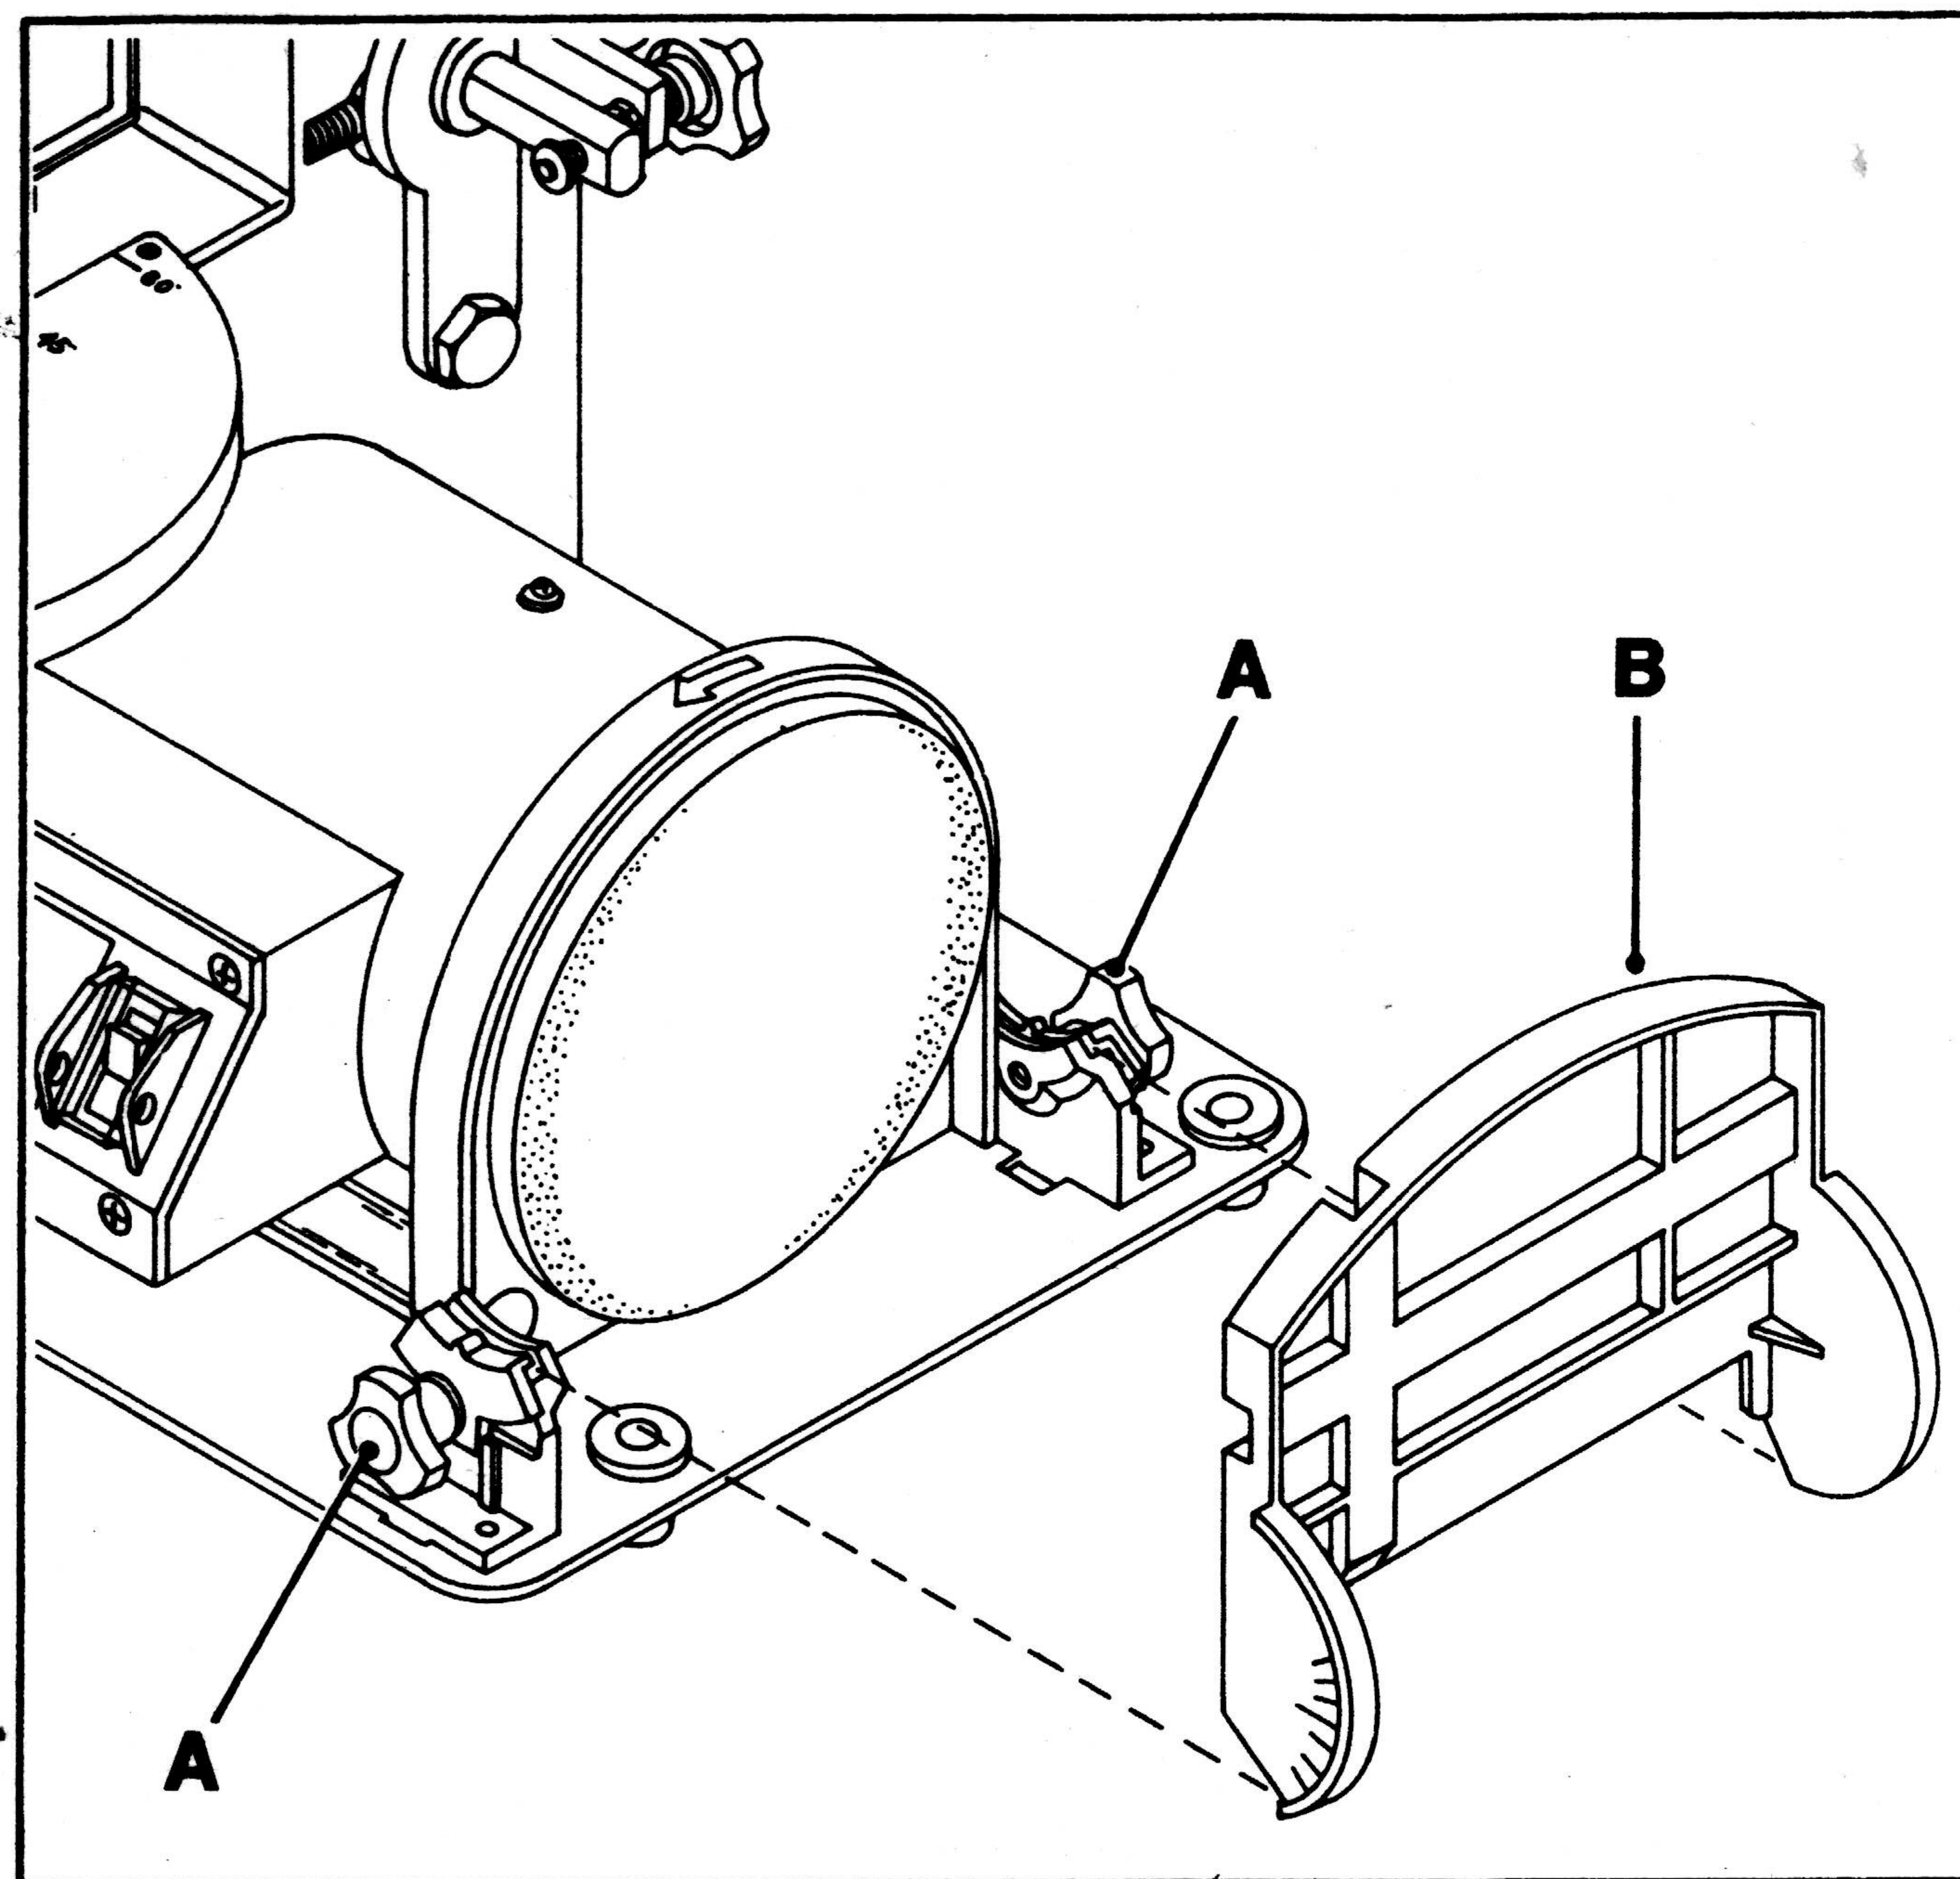

Fig. 6
1. Loosen disc table adjustment knobs (A).
2. Locate disc table (B) and slide rails on table (B) between rails on sander as shown in (Fig. 6) and tighten disc table adjustment knobs.